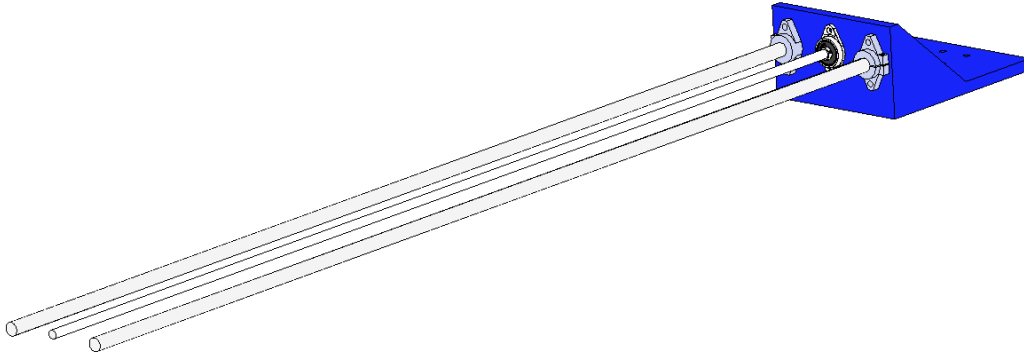

Figure 21: Assembly of the *X-Axis auxiliary support* with the two (2) linear rods and the lead screw.
3. Attach the two (2) twelve (12) millimeter linear rods to the SHF12 linear rod supports. Use the provided M4 screw in the support. Attach the eight (8) millimeter lead screw to the KFL08 bearing. Secure the lead screw with the M2 screws on the bearing. The assembly is shown on figure 21